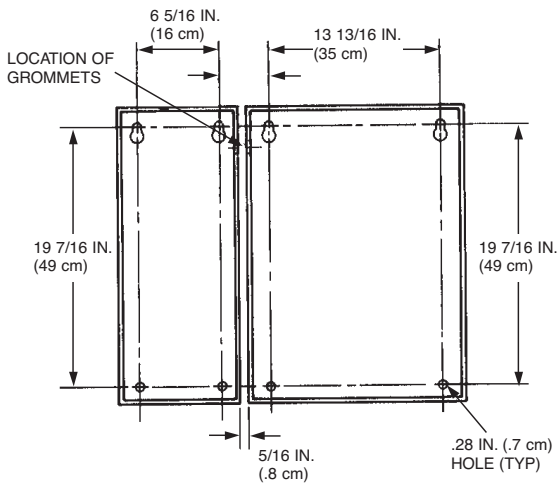

FIGURE 3a
- d. When mounting a 6-gallon manifolded system (or a 6-gallon individual piped system) it is critical that each mounting box is located as shown in Figure 3a. There must be a 5/16 in. space between each box. Less than 5/16 in. will cause interference with the covers, and more than a 5/16 in. will cause a gap between the two hose grommets which will expose the hose to possible tampering or damage.